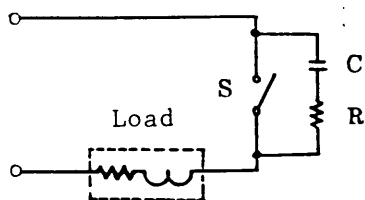

Figure 10
- (a) A particular attention is needed when the load is a capacitor or a battery. Refer to Section 2.2 (1).
- (b) To prevent unnecessary trips of the OVP by noise introduced through the AC line, provide a noise filter as shown in Figure 7. (See Figure 10.)
- o A noise killer consisting of C and R should be provided as shown in Figure 10 to suppress noise generated by switch S, especially when the output voltage is high and the switch contact is apt to be worn.